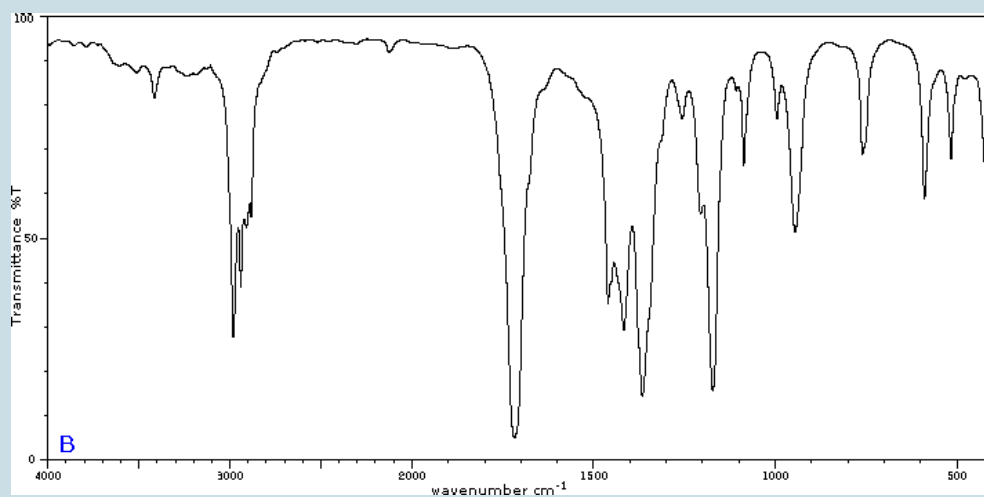
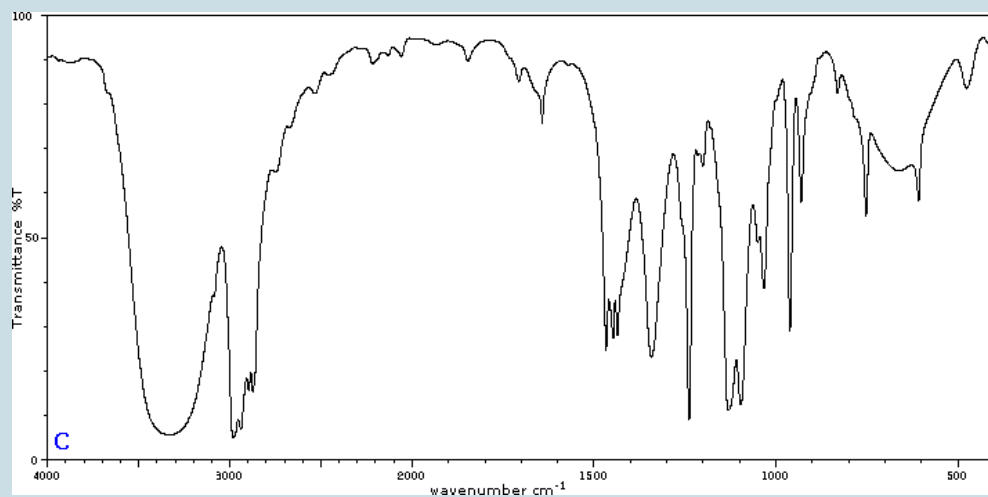
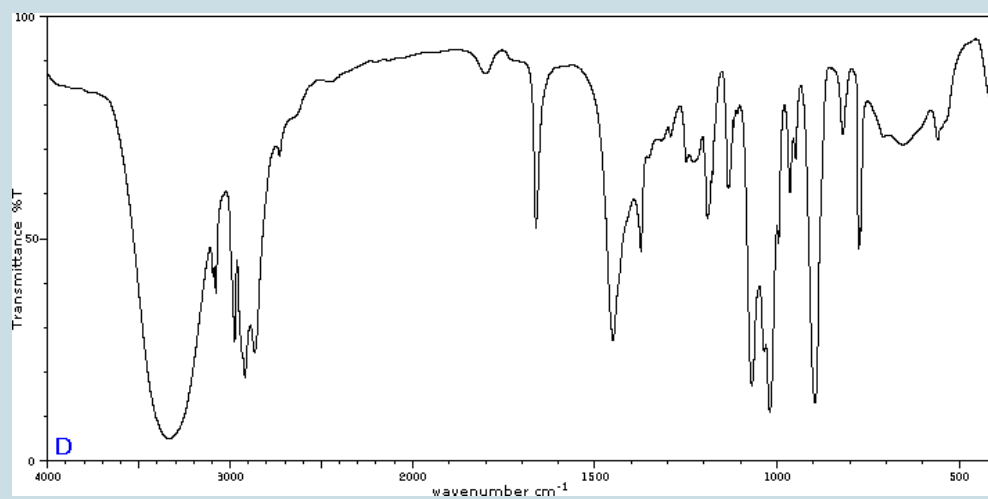
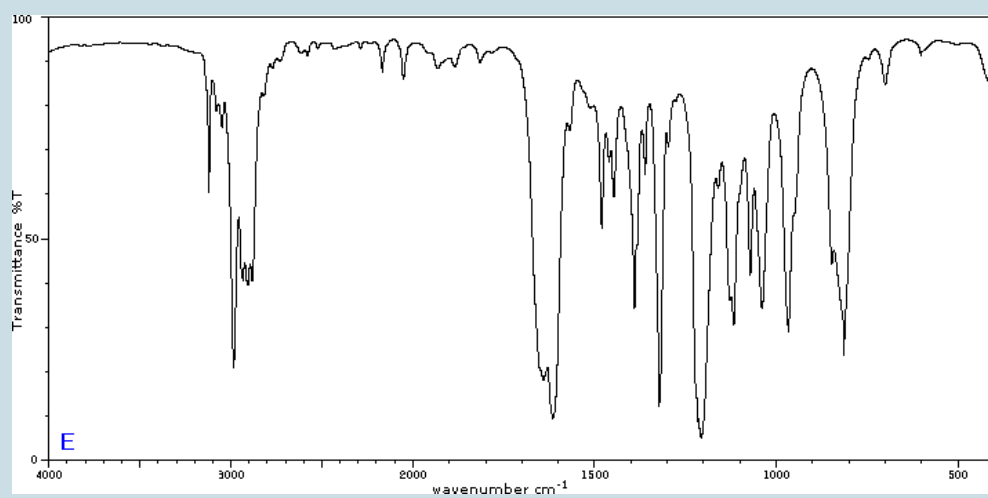

Figure 29.6v. Infrared spectrum of unknown compound B. (Credit: *Map: Organic Chemistry (Wade)*, CC BY-NC-SA 4.0)
Figure 29.6w. Infrared spectrum of unknown compound C. (Credit: Map: Organic Chemistry \(Wade\), CC BY-NC-SA 4.0)
Figure 29.6x. Infrared spectrum of unknown compound D. (Credit: Map: Organic Chemistry \(Wade\), CC BY-NC-SA 4.0)
Figure 29.6y. Infrared spectrum of unknown compound E. (Credit: Map: Organic Chemistry \(Wade\), CC BY-NC-SA 4.0)
Five infrared spectra are provided for isomers of $\text{C}_4\text{H}_8\text{O}$. Their structural formulas are also provided in Figure 29.6t. Associate each spectrum (Figure 29.6v through z) with one of the isomers.
1. Figure 29.6v: 2-methylpropanal, Figure 29.6w: 2-butanone, Figure 29.6x: cyclobutanol, Figure 29.6y: 2-methyl-2-propen-1-ol, Figure 29.6z: ethyl vinyl ether
29.7 MASS SPECTROMETRY (MS)